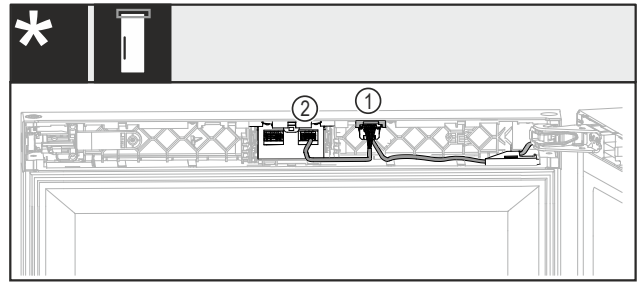

Fig. 46 Without lock or with mechanical lock\*
- Insert the plug with both cables Fig. 46 (1) into the guide.\*
- Engage the plug with a cable Fig. 46 (2) in the right-hand retaining clip.\*